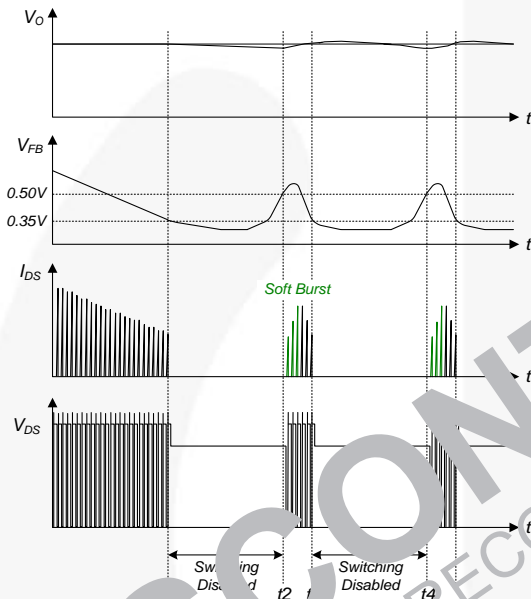

Figure 26. Burst Mode Operation
5. Soft Burst Mode: To minimize power dissipation in Standby Mode, the FSL137MRIN enters Burst-Mode operation. As the load decreases, the feedback voltage decreases. As shown in Figure 26, the device automatically enters Burst Mode when the feedback voltage drops below V_{BURL} (350 mV). At this point, switching stops and the output voltages start to drop at a rate dependent on standby current load. This causes the feedback voltage to rise. Once it passes V_{BURH} (500 mV), switching resumes. The feedback voltage then falls and the process repeats. Burst Mode alternately enables and disables SenseFET switching, reducing switching loss in Standby Mode.